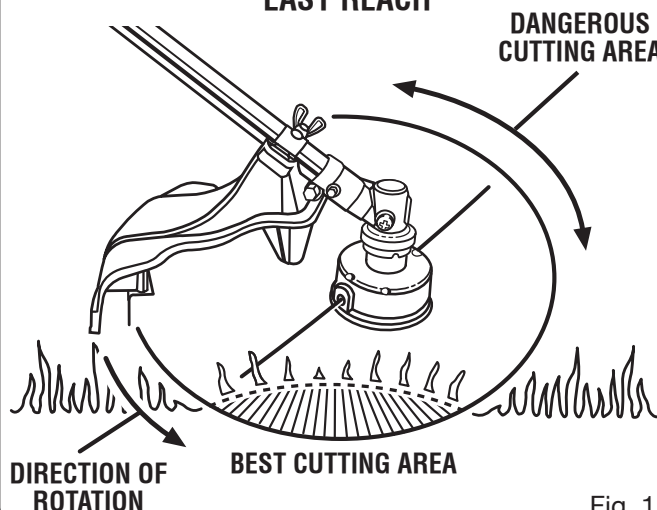

Fig. 11
See Figure 11.
- The curved shaft trimmer cuts when passing the unit from right to left. The straight shaft trimmer cuts when passing the unit from left to right. This will avoid throwing debris at the operator. Avoid cutting in the dangerous area shown in Figure 11.